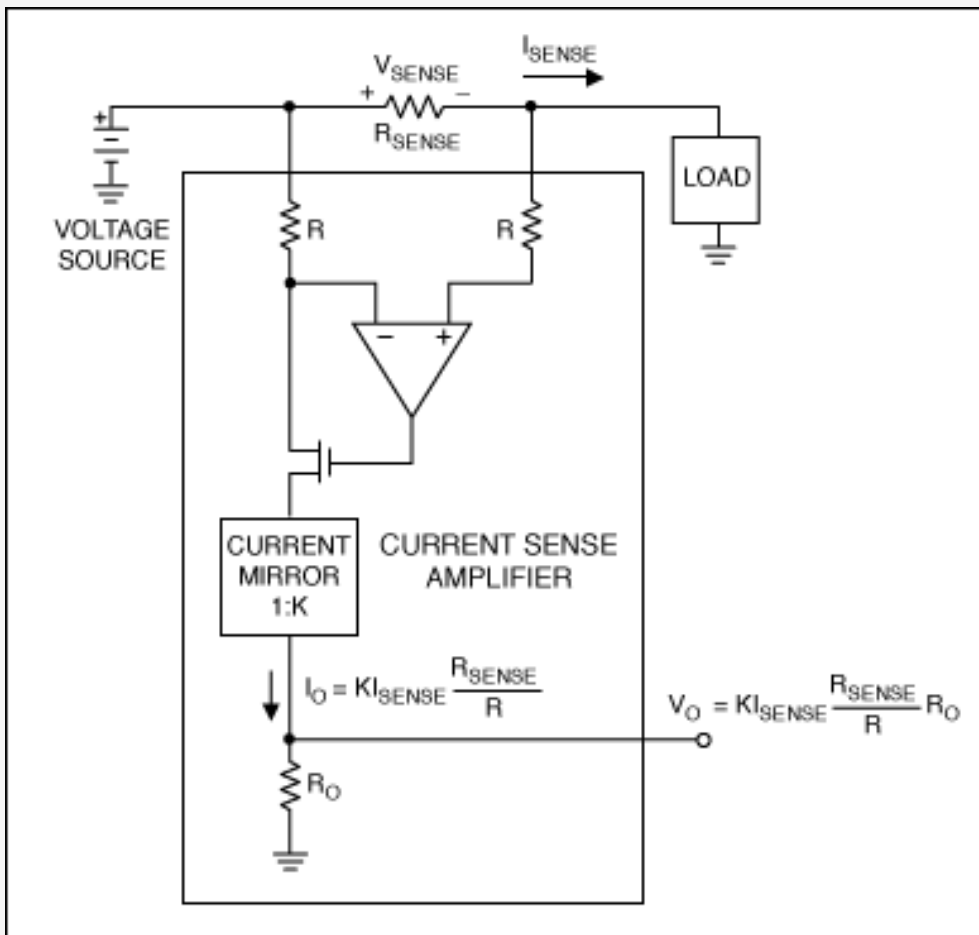
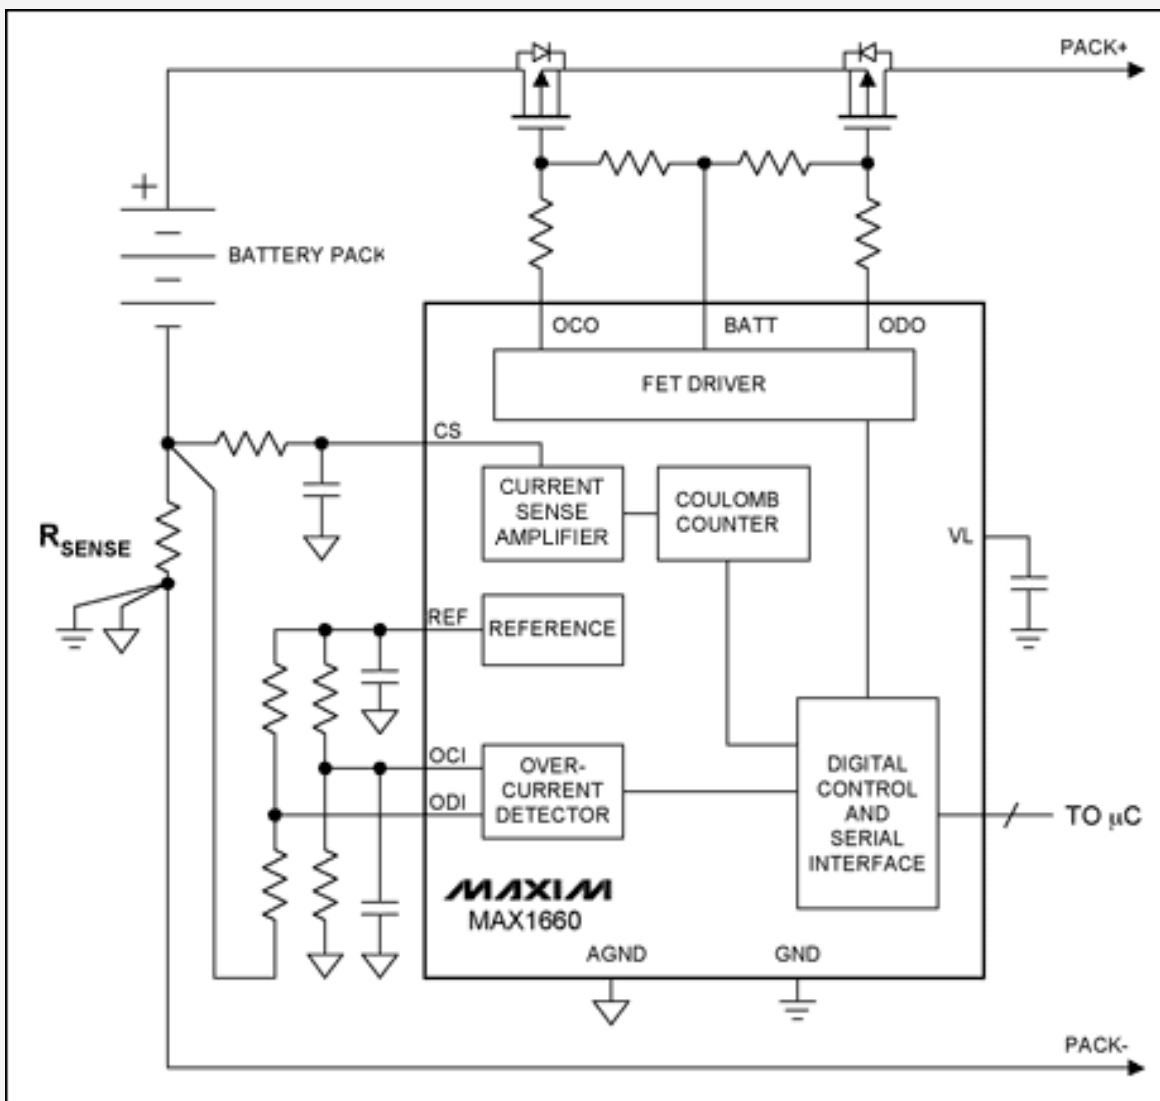
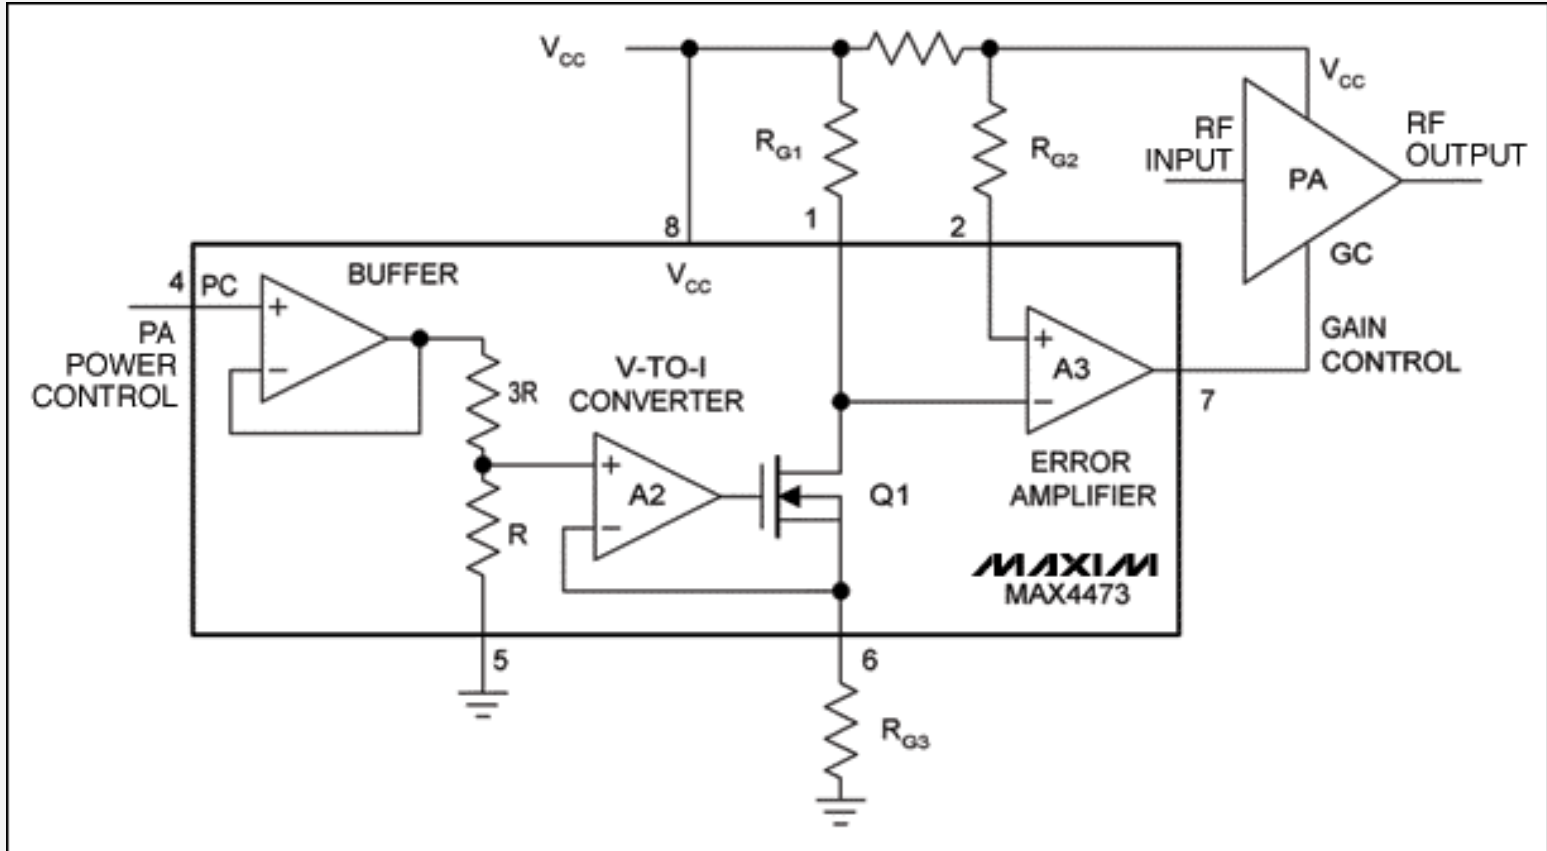

Figure 1. This high-side current sensor exploits Ohm's Law for current measurements.
Figure 4. Fuel-gauging devices like the MAX1660 track charge/discharge currents by monitoring the charges that flow in and out of the battery pack.
Figure 5. This current controller (MAX4473) dynamically adjusts the supply current to minimize power consumption while maintaining good signal integrity.
The current-sensing amplifier must have both low-input offset voltage and low input bias current. A dedicated high-side current-sense amplifier (**Figure 1**) places a current-sensing resistor between the voltage source (a battery, for instance) and the load. By avoiding extraneous resistance in the ground plane, that arrangement greatly simplifies the board layout and generally improves the overall circuit performance. Current passing through the sense resistor (R_{SENSE}) develops a voltage drop, which is sensed by the op amp and drives the MOSFET transistor to sink current through R . The voltage drop across R equals the voltage across the sensing resistor:
The current-sensing amplifier shown in Figure 1 is a relatively simple and general-purpose device. Specific applications, such as fuel gauging and battery management, however, require that additional functions and features be integrated on-chip (**Figure 4**). Fuel gauging is important for battery applications, where battery capacity is monitored precisely to optimize system performance and prolong battery life.
Though similar to the current sensor in Figure 1, a PA current controller like the MAX4473 (Figure 5) incorporates an error amplifier and operates in a closed loop. Its operation is like a current source. The error amplifier (A3) compares and integrates any voltage difference between the IR drops across R_{SENSE} and R_{G1} , and feeds that output to the gain control (GC) input of the power amplifier. A3 increases the gain and the PA output power, and consequently the supply current, until the two IR drops are equal. The voltage-to-current converter comprising A2, Q1, and R_{G3} controls the voltage drop across R_{G1} ; users control the PA supply current externally, with the PC input: